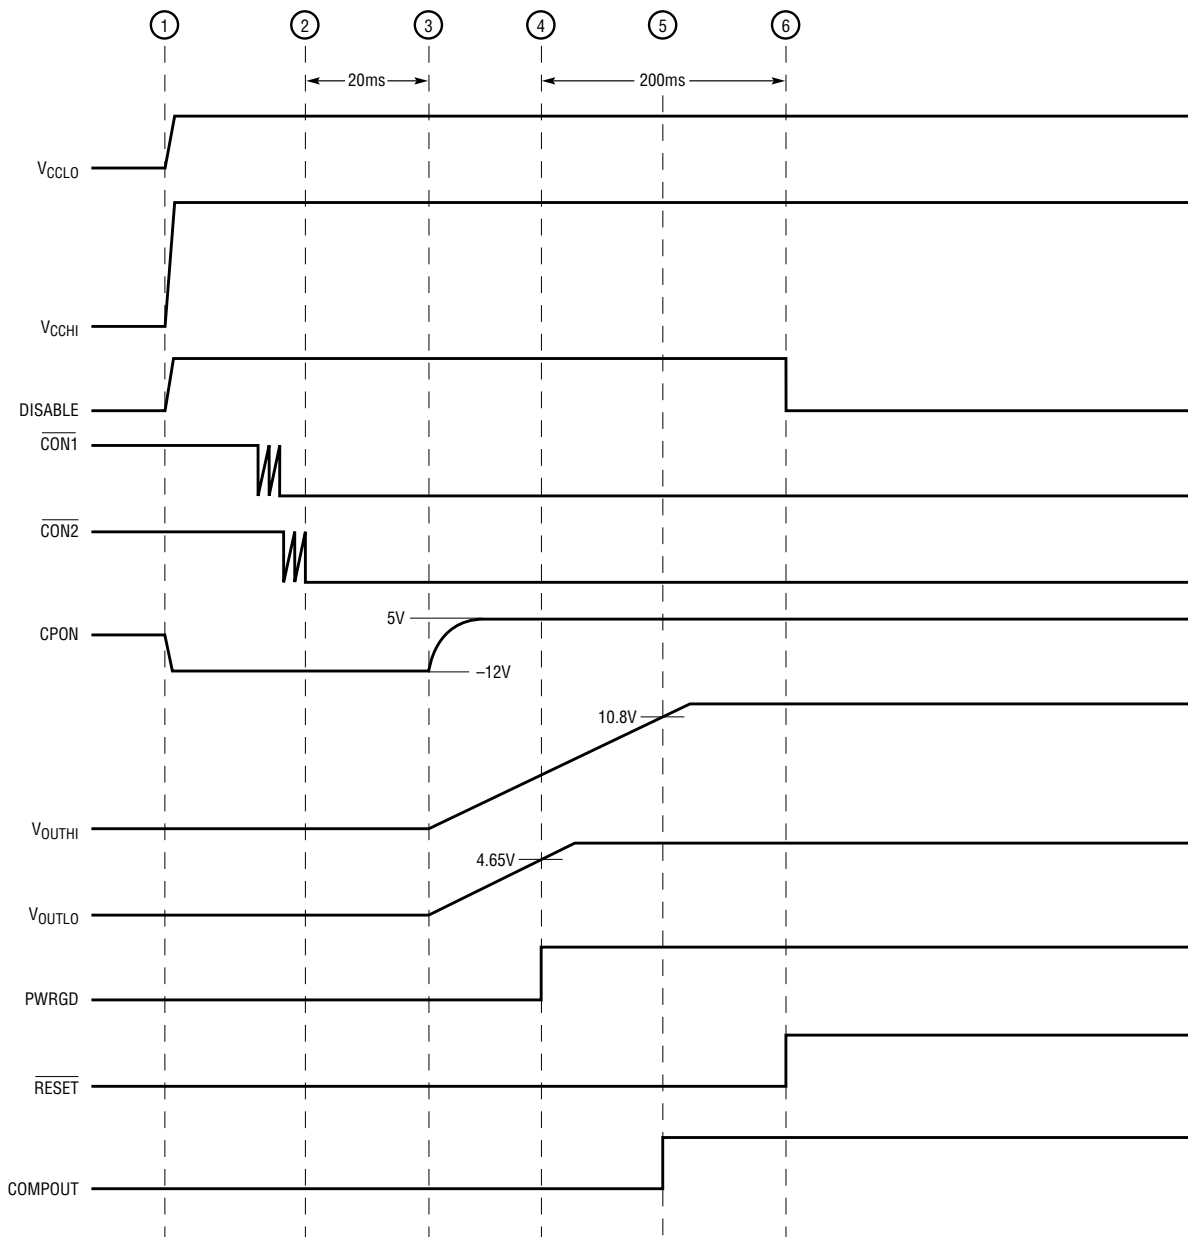

Figure 2. Typical insertion timing
The system timing is shown in Figure 2. When the supply pins make contact, (Figure 2, time point 1), the LTC1421 prevents transistors Q1 and Q2 from turning on by holding their gates (GATELO and GATEHI) at ground, while C3 and R4 keep Q3 off by pulling its gate to -12V. The Schottky diode in the output stage of CPON allows the pin to be pulled below ground. The two connection sense pins, CON1 and CON2, are initially pulled to V_{CCL0} by 10k pull-up resistors. PWRGD and RESET are held low while V_{CCL0} and V_{CCHI} are pulled to ground by internal transistors N1 and N2. At the same time, DISABLE is pulled high, turning on transistor Q4, which will halt traffic on the backplane data bus before the data pins make contact. CON1 and CON2 are the last pins to make contact and are shorted to ground on the backplane side of the connector. After
they have stopped bouncing (Figure 2, time point 2), the LTC1421 will wait for 20ms.
At the end of 20ms, if V_{CCLO} and V_{CCHI} have exceeded the undervoltage lockout threshold (2.45V), and V_{OUTLO} is less than 100mV above ground, the LTC1421 is ready to turn on the supplies (Figure 2, time point 3). A $20\mu A$ reference current is connected to the RAMP pin, the charge
As soon as V_{CCLO} reaches the 4.65V reset threshold, (Figure 2, time point 4), the \overline{PWRGD} signal immediately pulls high. After a 200ms delay, the \overline{RESET} signal pulls high, (Figure 2, time point 6), and the $\overline{DISABLE}$ pin pulls low, thus enabling the system data bus. In this application, the free comparator, CP5, is used to monitor the 12V supply. When V_{OUTH1} reaches
10.8V, the $\overline{COMPOUT}$ signal pulls high (Figure 2, time point 5).